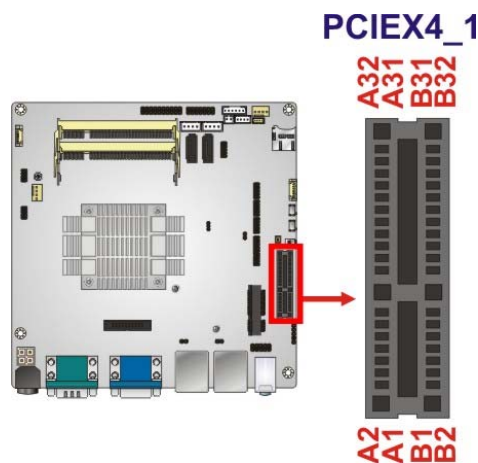

**Figure 3-13: Memory Card Slot Locations**
**CN Location:** See Figure 3-13